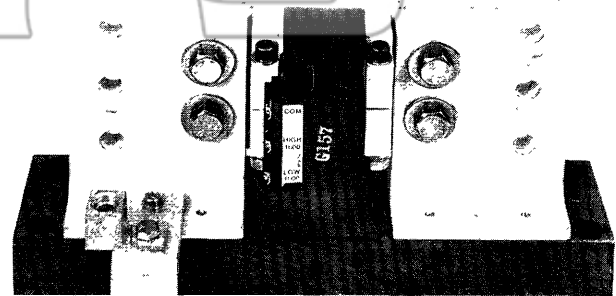

Figure 2. Neutral Kit with CT installed.
2. If a neutral current transformer (CT) is required, remove the shorting plate(s) and attach the CT with the same bolts, as shown in Figure 2. Torque the bolts to 300–400 lb-in (25–33 lb-ft).